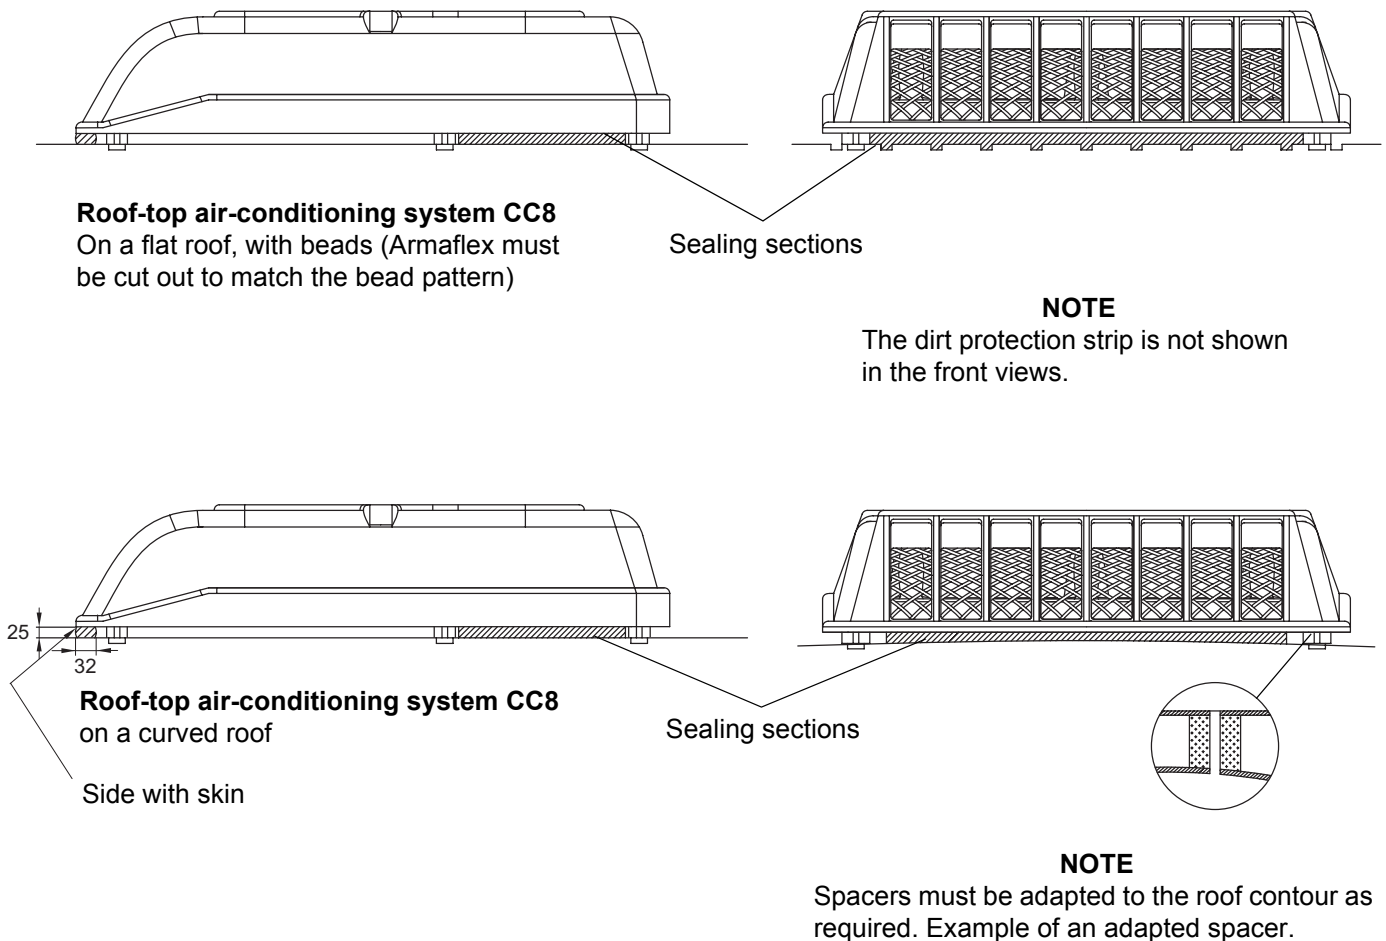

Fig. 406 Roof seal
1. Cut out the weatherseal taking care to adapt its thickness to the contours of the roof (beads, channels and roof curvature), so that the contours (Fig. 406) are properly sealed.